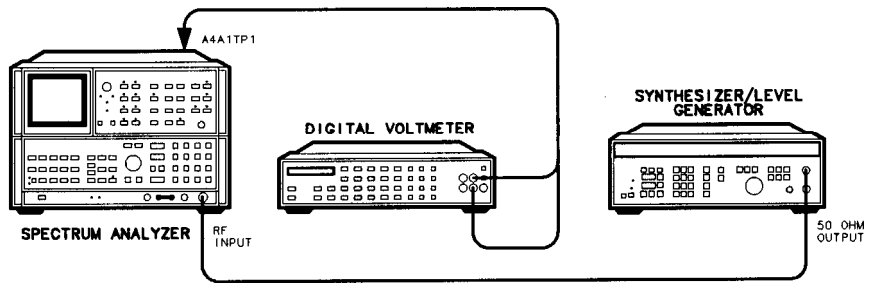

Figure 3-33. Log Amplifier Adjustments Setup
1. Position the spectrum analyzer upright as shown in Figure 3-33. Remove the IF-Display section top cover.